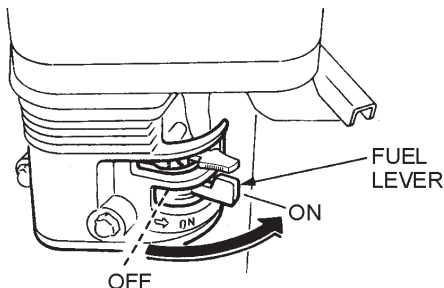

Figure 16. Engine Fuel Valve Lever
1. Place the engine ***fuel valve lever*** (Figure 16) to the "ON" position.